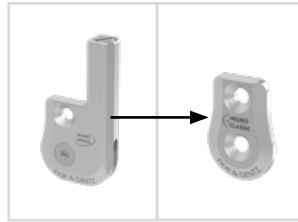

fig. 24
- 2 Mount the cover plate of the **NEURO CLASSIC** system joint in the correct system width (fig. 24).